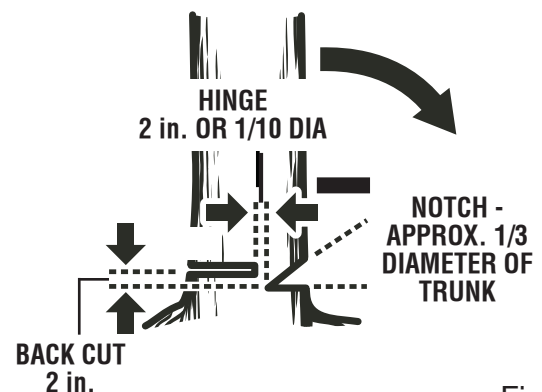

Fig. 13
- **Notched Undercut.** Cut a notch about 1/3 the diameter of the tree, perpendicular to the direction of fall. Make the cuts of the notch so they intersect at a right angle to the line of fall. This notch should be cleaned out to leave a straight line. To keep the weight of the wood off the saw, always make the lower cut of the notch before the upper cut. *See Figure 13.*
- **Felling Backcut.** The backcut is always made level and horizontal, and at a minimum of 2 in. above the horizontal cut of the notch. *See Figures 13 - 14.*
- Never cut through to the notch. Always leave a band of wood between the notch and backcut (approximately 2 in. or 1/10 the diameter of the tree). This is called “hinge” or “hingewood.” It controls the fall of the tree and prevents slipping or twisting or shoot-back of the tree off the stump. *See Figures 13 - 14.*